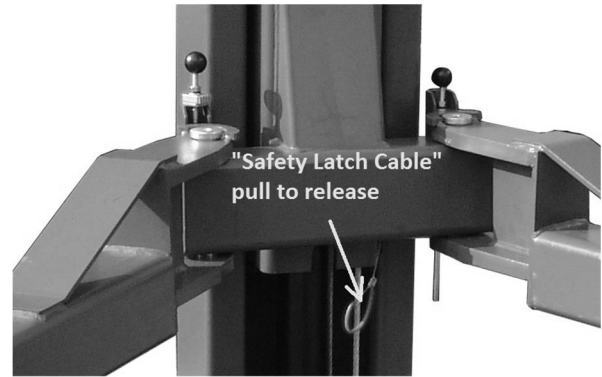

Fig. 24
- 2 To lower the lift, both carriages safety latch releases must be manually pulled down to be released to lower lift (**Fig.24**). The latches will automatically reset once the lift ascends approximately 17+from base.